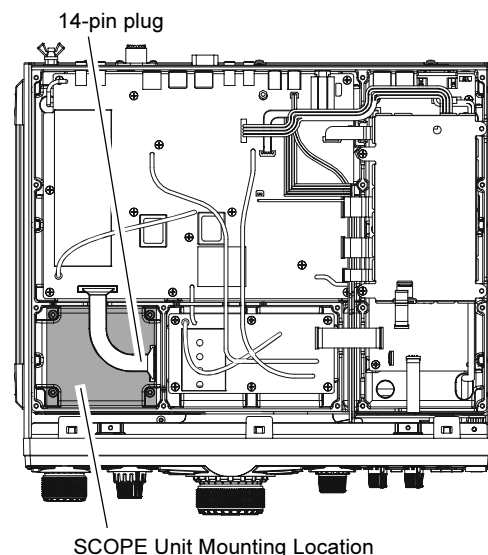

FIGURE 2
4. Refer to Figure 2 for the mounting location of the SCOPE Unit. There is a disconnected 14-pin plug.